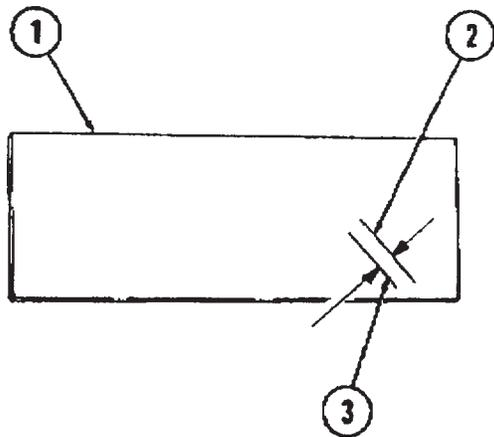

Figure 7-5.
12. Measure distance between marked reference line one (3) and reference line two (2) on steel plate or scrap metal (1) as shown in Figure 7-5. If measurement exceeds 0.25 inch, replace idler arm.